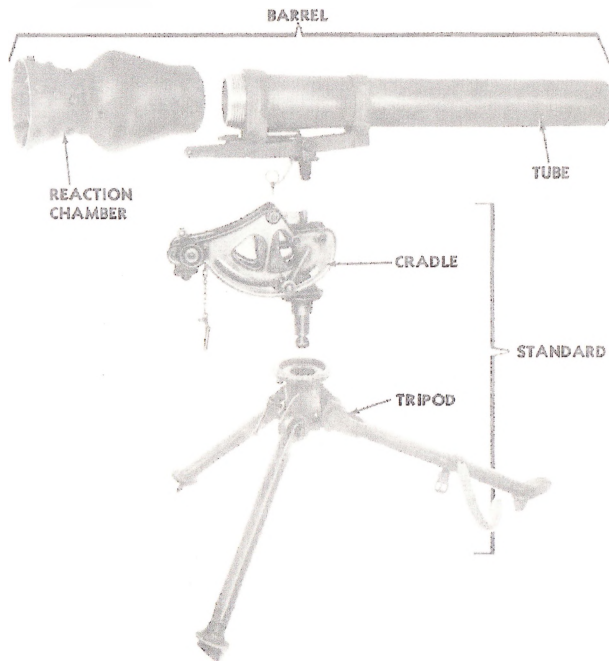

Fig. 3. Component assemblies of mortar.
b. Components. The mortar consists of a barrel and standard (fig. 3). These can be transported by pack, cart, or any other means of transport.